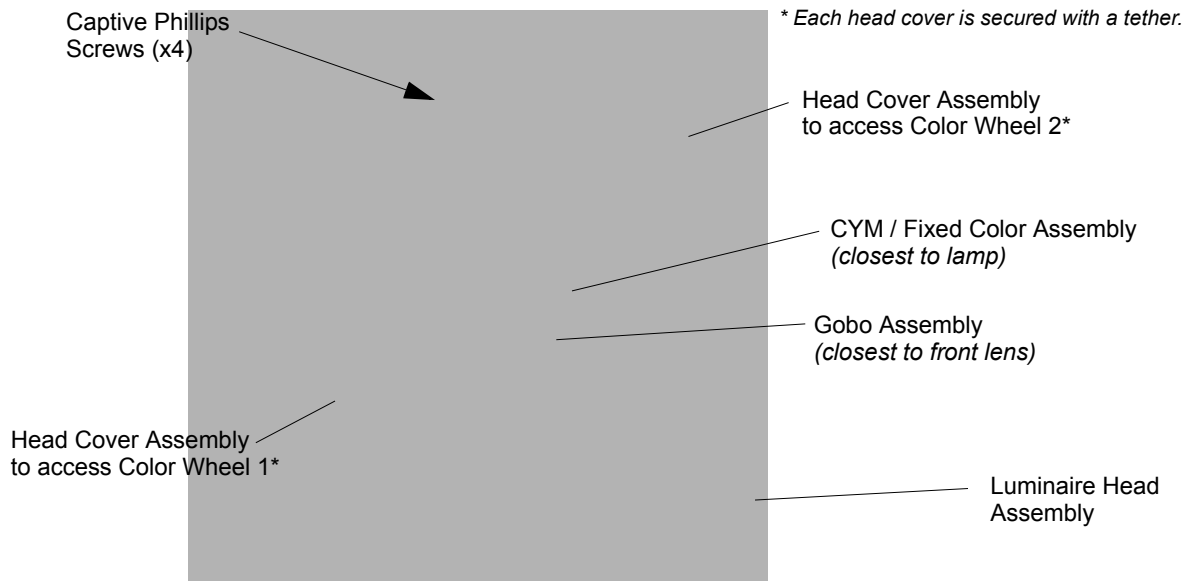

Figure A-4: Replacing Fixed Color Filters
- a. For Fixed Color Wheel 1 (closest to the rear of luminaire), remove head cover assembly as indicated in Figure A-4 by loosening four captive screws and lifting cover away from luminaire head. Note, head cover is attached by a safety tether.
- b. For Fixed Color Wheel 2 (closest to the front of luminaire), remove head cover assembly as indicated in Figure A-4 by loosening four captive screws and lifting cover away from luminaire head. Note, head cover is attached by a safety tether.
- a. For Rotating Gobo Wheel 1 (closest to the rear of luminaire), remove head cover assembly as indicated in Figure A-4 by loosening our captive screws and lifting cover away from luminaire head. Note, head cover is attached by a safety tether.
- b. For Rotating Gobo Wheel 2 (closest to the front of luminaire), remove head cover assembly as indicated in Figure A-4 by loosening our captive screws and lifting cover away from luminaire head. Note, head cover is attached by a safety tether.